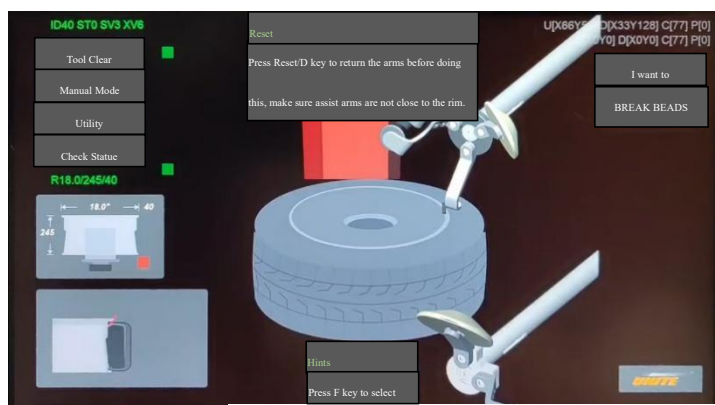

Figure 17
Press (F) to operate with the program text prompt on the operation panel.(Figure 17)